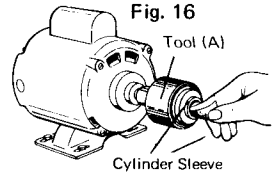

Fig. 16
- (b) Inspect cylinder sleeves for grooves and pitting. Insert cylinder sleeve into tool and polish (Fig. 16). Cylinder sleeve should be polished down not more than .005—using No. 120 grit emery cloth. Apply final finish using a fine No. 320 grit emery cloth. If pitting or scoring still shows, replace sleeve, as well as **CYLINDER SLEEVE O-RING**.